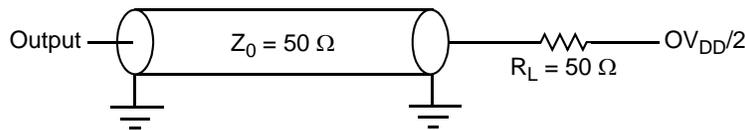

Figure 29. AC Test Load for the JTAG Interface
1. All outputs are measured from the midpoint voltage of the falling/rising edge of t_{TCLK} to the midpoint of the signal in question. The output timings are measured at the pins. All output timings assume a purely resistive 50-Ω load (see Figure 29). Time-of-flight delays must be added for trace lengths, vias, and connectors in the system.
2. The symbols used for timing specifications follow the pattern of $t_{(first\ two\ letters\ of\ functional\ block)(signal)(state)(reference)(state)}$ for inputs and $t_{(first\ two\ letters\ of\ functional\ block)(reference)(state)(signal)(state)}$ for outputs. For example, t_{JTDVXH} symbolizes JTAG device timing (JT) with respect to the time data input signals (D) reaching the valid state (V) relative to the t_{JTG} clock reference (K) going to the high (H) state or setup time. Also, t_{JTDVXH} symbolizes JTAG timing (JT) with respect to the time data input signals (D) went invalid (X) relative to the t_{JTG} clock reference (K) going to the high (H) state. Note that, in general, the clock reference symbol representation is based on three letters representing the clock of a particular functional. For rise and fall times, the latter convention is used with the appropriate letter: R (rise) or F (fall).
Figure 29 provides the AC test load for TDO and the boundary-scan outputs.